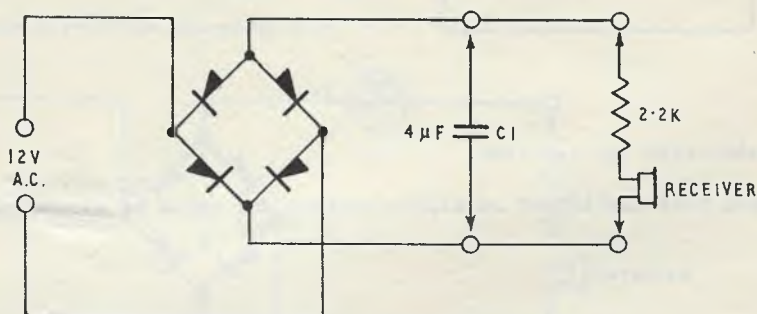

FIG. 1.
STEP 1. Connect the circuit as shown in Fig. 1.
STEP 3. Connect the capacitor C1 in circuit as shown in Fig. 1.